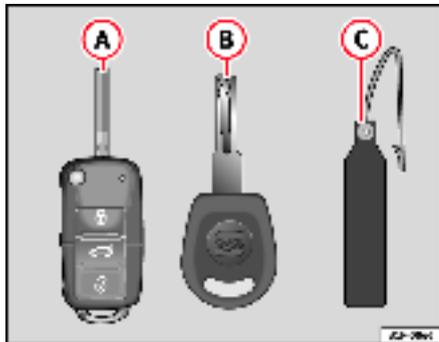

Fig. 54 Set of keys
- one remote control key ⇒ fig. 54 **A** with folding key bit\*,
Spare keys cannot be issued without the key number on the key tab ⇒ fig. 54 **B**. Therefore: